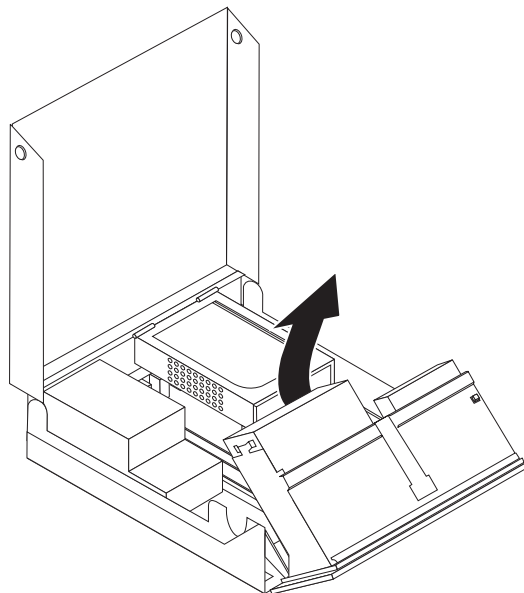

Figure 17. Accessing the system board
3. Pivot the drive bay assembly upward to gain access to the system board. See Figure 17.